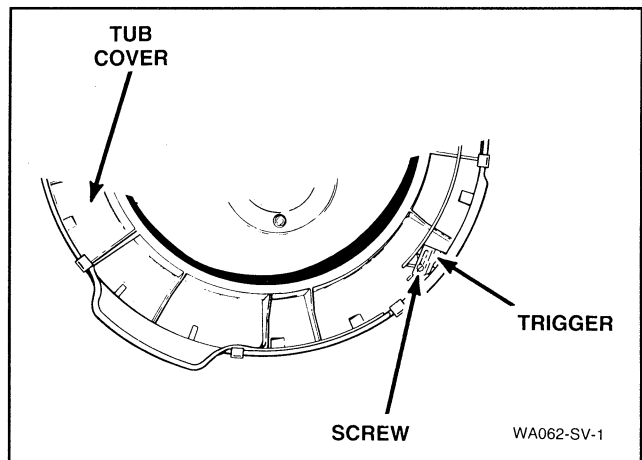

Figure 48
NOTE: The trigger is centered on the mounting screw at the factory *Figure 48*.
- Loosen screw holding trigger to tub cover, *Figure 48*, move trigger to the right (increases sensitivity) or to the left (decreases sensitivity).